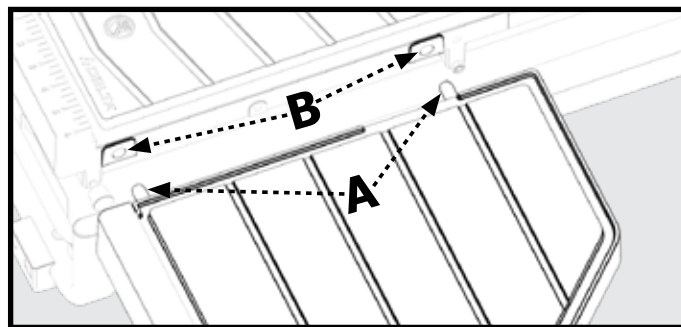

Figure 12
1. The Table Extension (17) installs on the right side of the Worktable (4).
2. Position the Table Extension so that the two Pegs (A) line up with the Holes (B) on the Worktable as shown in Figure 12.
2. Attach the free end of the water hose into the outlet nipple (C, Fig. 12) on the submersible pump (7).
3. Place the pump in the bottom of the water tray (1) - inside the containment area shown in Figure 12 - and firmly press down so that the suction feet are securely adhered.
4. Secure the slack in the water hose and pump's power cord to the tool using the provided snap ties (D, Fig. 12).